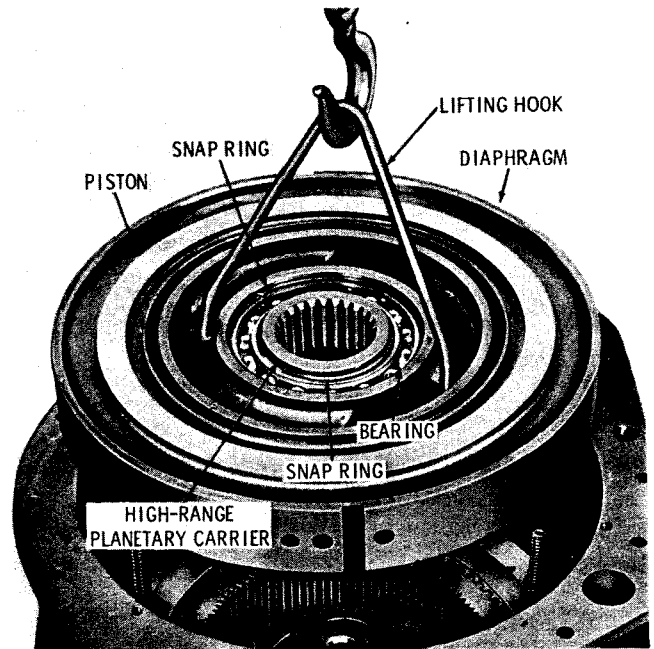

Fig. 5-32. Removing diaphragm
(2) Back off the compressor screws evenly until spring pressure is relieved from the diaphragm. Remove the compressor.
(3) Using the special lifting hook (refer to para 4-3a), remove the diaphragm and its attached parts (fig. 5-32).
(4) Remove the two clutch pistons from the diaphragm. Refer to paragraph 6-15 for piston rebuild procedures.
(5) Remove the snap rings which retain the high-range planetary carrier assembly and ball bearing in the diaphragm (fig. 5-32). Remove the carrier assembly. Remove the ball bearing. Refer to paragraph 6-18 for carrier assembly rebuild procedures.